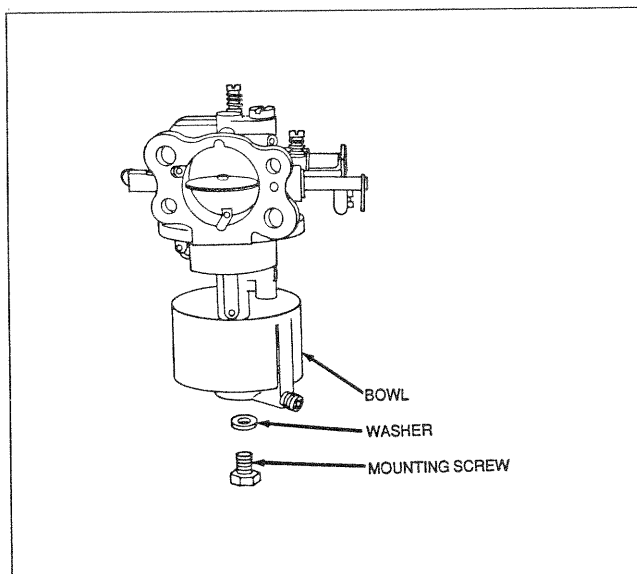

Figure 125. Bowl Removal
- Remove bowl mounting screw, washer and bowl. See Figure 125.